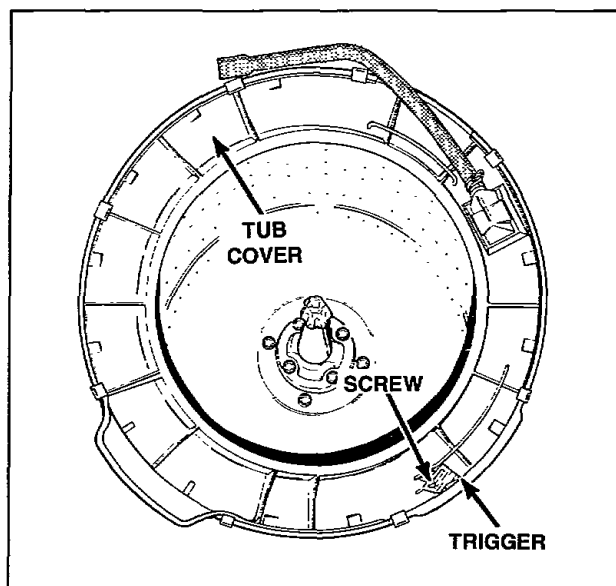

Figure 62
NOTE: The trigger is centered on the mounting screw at the factory, *Figure 62*.
- c. Loosen screw holding trigger to tub cover, *Figure 62*, move trigger to the right (increases sensitivity) or to the left (decreases sensitivity).